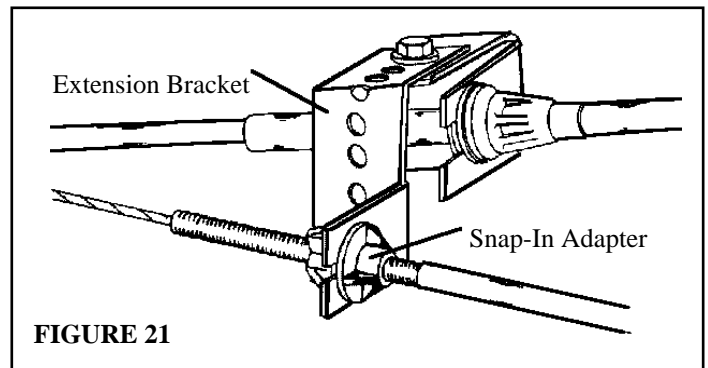
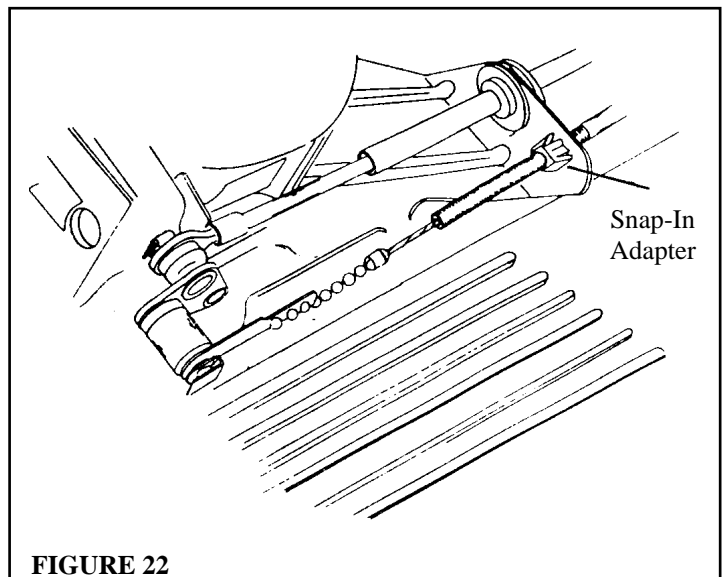

FIGURE 21
FIGURE 22
3. The **Snap-In Adapter** snaps into the square hole of the **Extension Bracket** (**Figure 21**) or snaps into an existing square hole on the vehicle -- common on GM vehicles. (**Figure 22**)